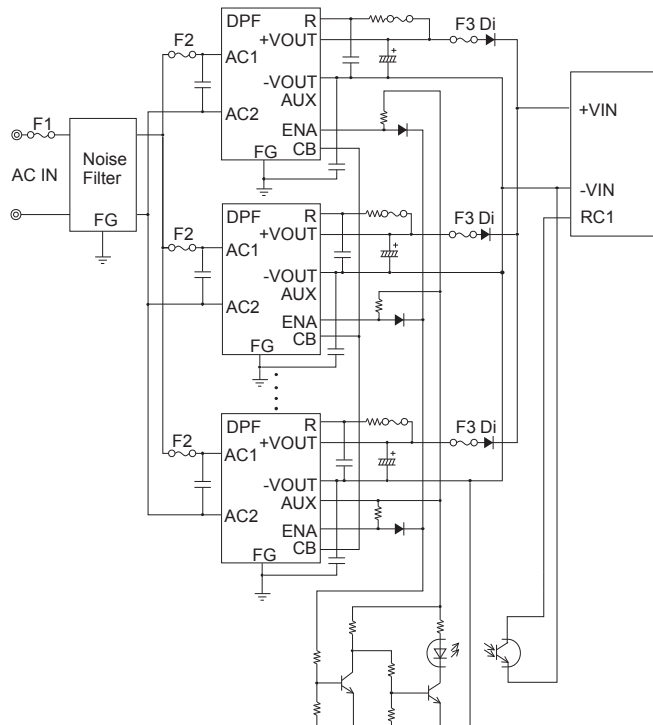

Fig.5.1 Parallel operation
■Parallel operation is available by connecting the units as shown in Fig.5.1.